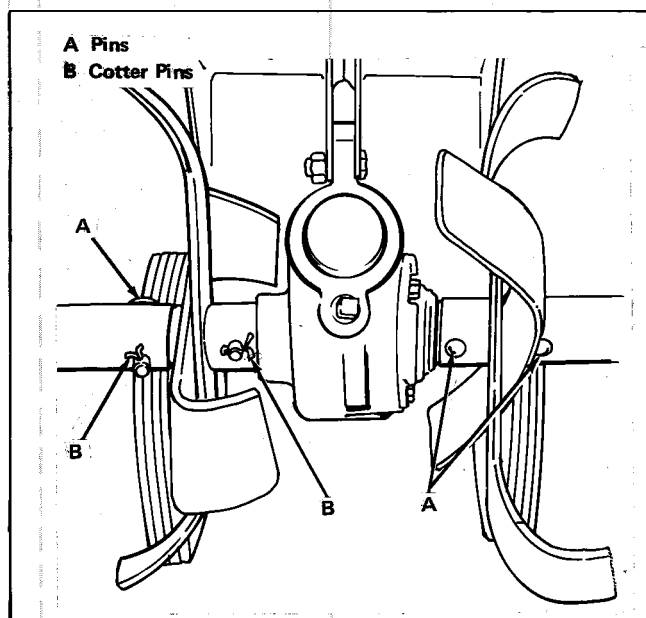

Figure 28. Tine Assembly
1. Tip the tiller backward so it rests on the handlebars. Slide the tines on the rotor shaft making sure that the cutting edges of the tines are the forward leading edges as the rotor turns. Secure the tines with pins (items A, figure 28) and cotter pins (item B) (shipped in bag). Tip tiller forward again.